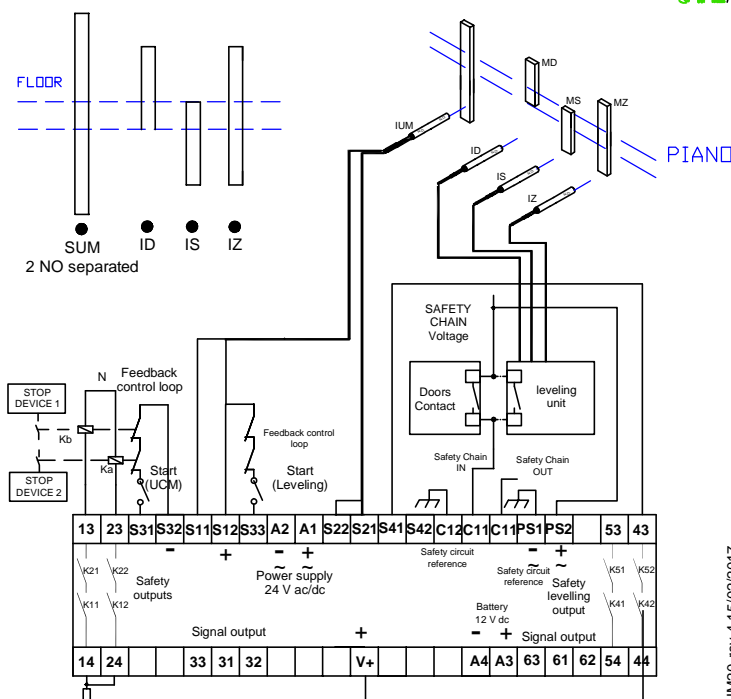

FIG. 1 Independent levelling mode
Mode with independent leveling (Fig.1): in some application is needed to separate the elevator levelling from the UCM detector to avoid, in case of exit from leveling zone, that the controller put the elevator out of order.
- 4) Change the electrical connection as indicated in fig.1 (AnnexA)